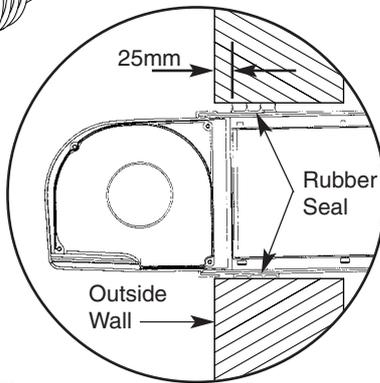

Fig. 22
5. Measure the total wall thickness. The outer of the two rubber seals is adjustable and should be set in a position that is 25mm in from the outer face of the external wall (Fig. 22).